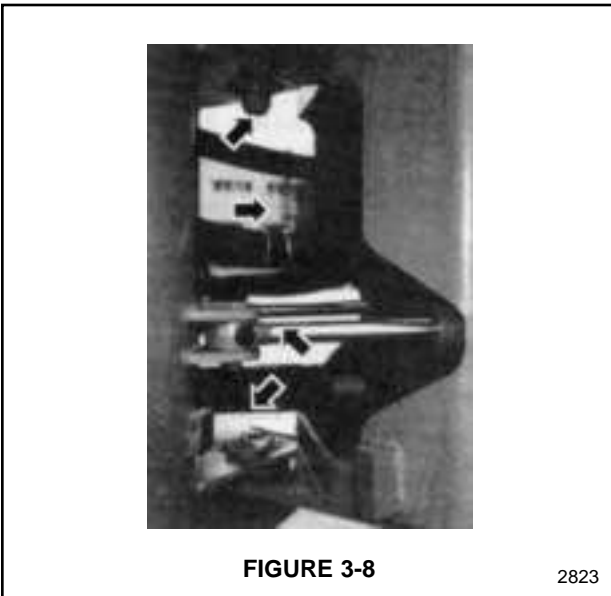

FIGURE 3-7
- D. Arm-lever connecting pins, 1 place on each side of machine. See Figure 3-7.
Lift cylinder rods, 1 place on each side of machine. See Figure 3-7.